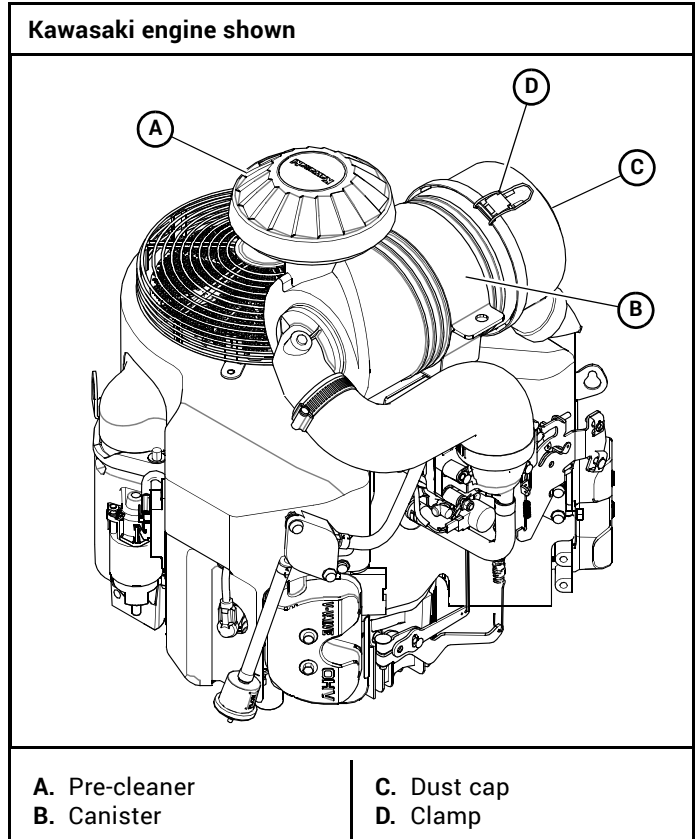
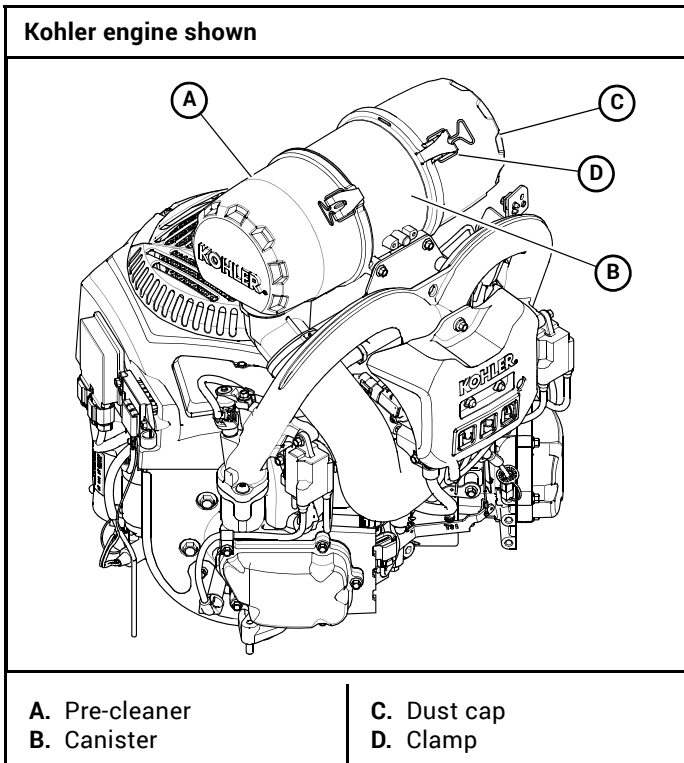

Figure 4-14
Figure 4-15
A specially designed dry filter is standard equipment on these mowers and supplies clean combustion air to the engine. Figure 4-14 & Figure 4-15
3. Reinstall the dust cap. Make sure it seals all the way around the air cleaner canister, then tighten the clamps. Figure 4-14 & Figure 4-15